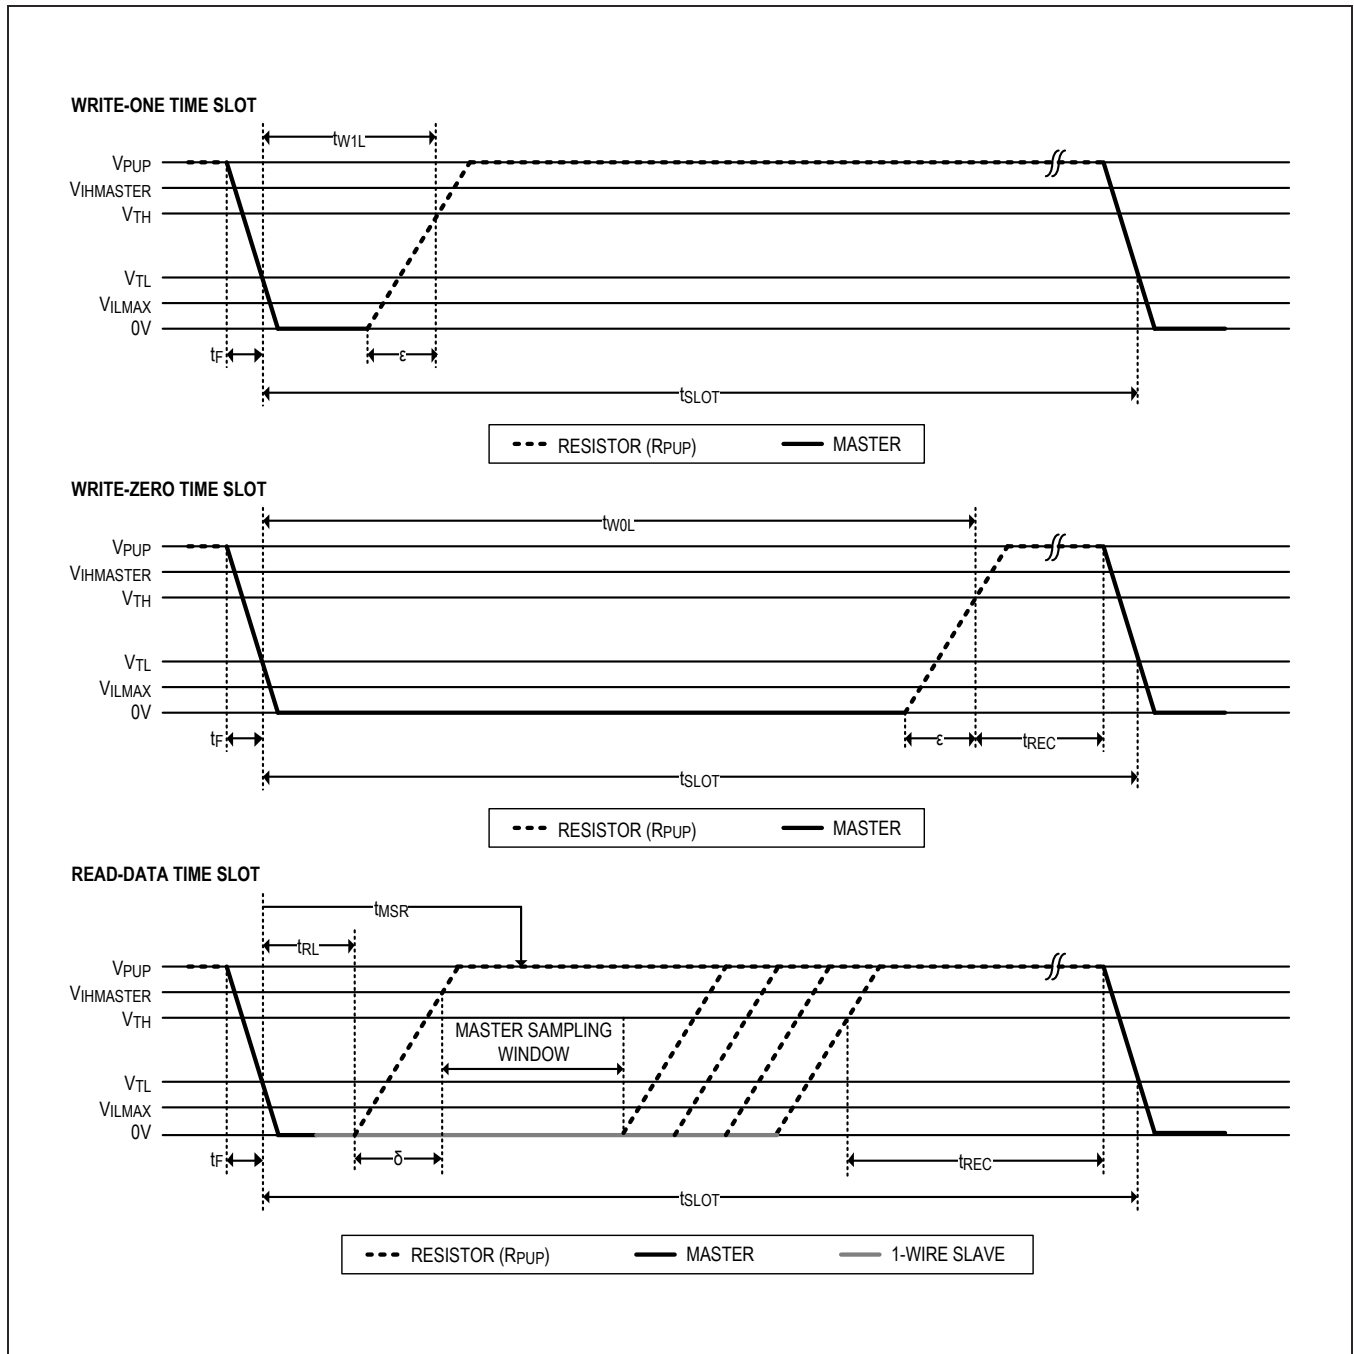

Figure 6. Read/Write Timing Diagrams
**Note 18:**  $\epsilon$  in Figure 6 represents the time required for the pullup circuitry to pull the voltage on IO up from  $V_{IL}$  to  $V_{TH}$ .
**Note 19:**  $\delta$  in Figure 6 represents the time required for the pullup circuitry to pull the voltage on IO up from  $V_{IL}$  to the input-high threshold of the bus master.
To get from idle to active, the voltage on the 1-Wire line needs to fall from  $V_{PUP}$  below the threshold  $V_{TL}$ . To get from active to idle, the voltage needs to rise from  $V_{ILMAX}$  past the threshold  $V_{TH}$ . The time it takes for the voltage to make this rise is seen in Figure 6 as  $\epsilon$ , and its duration depends on the pullup resistor ( $R_{PUP}$ ) used and the capacitance of the 1-Wire network attached. The voltage  $V_{ILMAX}$  is relevant for the DS28E36 when determining a logical level, not triggering any events.
Data communication with the DS28E36 takes place in time slots that carry a single bit each. Write time slots transport data from bus master to slave. Read time slots transfer data from slave to master. Figure 6 illustrates the definitions of the write and read time slots.